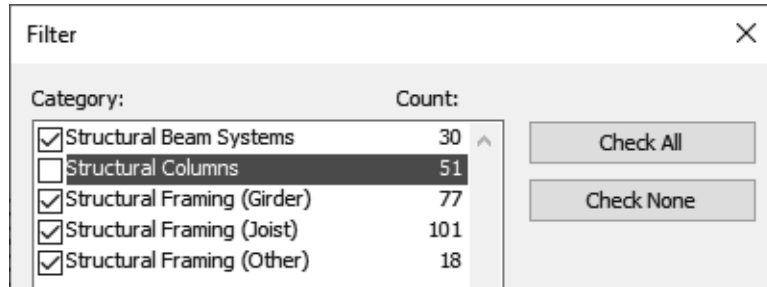

Figure 7–18
3. In the Filter dialog box, clear the **Structural Columns** category as shown in Figure 7–18. If elements other than framing are displayed, clear those categories as well.